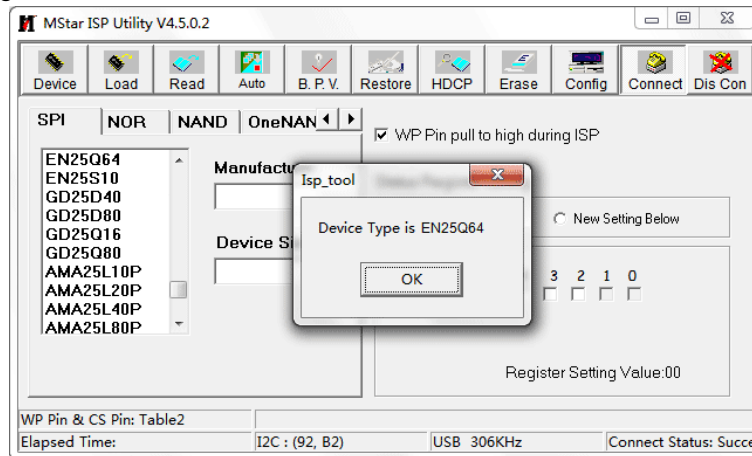

Fig. 3 Successful connection
- c) Press menu **“Connect”**, a dialog box **“Device Type is XXX (XXX is corresponding type of SPI Flash)”** will pop up, that is, connection has been successful, please refer to Fig. 3; if connection is failed, press the first menu **“Device”** to select SPI Flash type manually, then press menu **“Connect”** again;